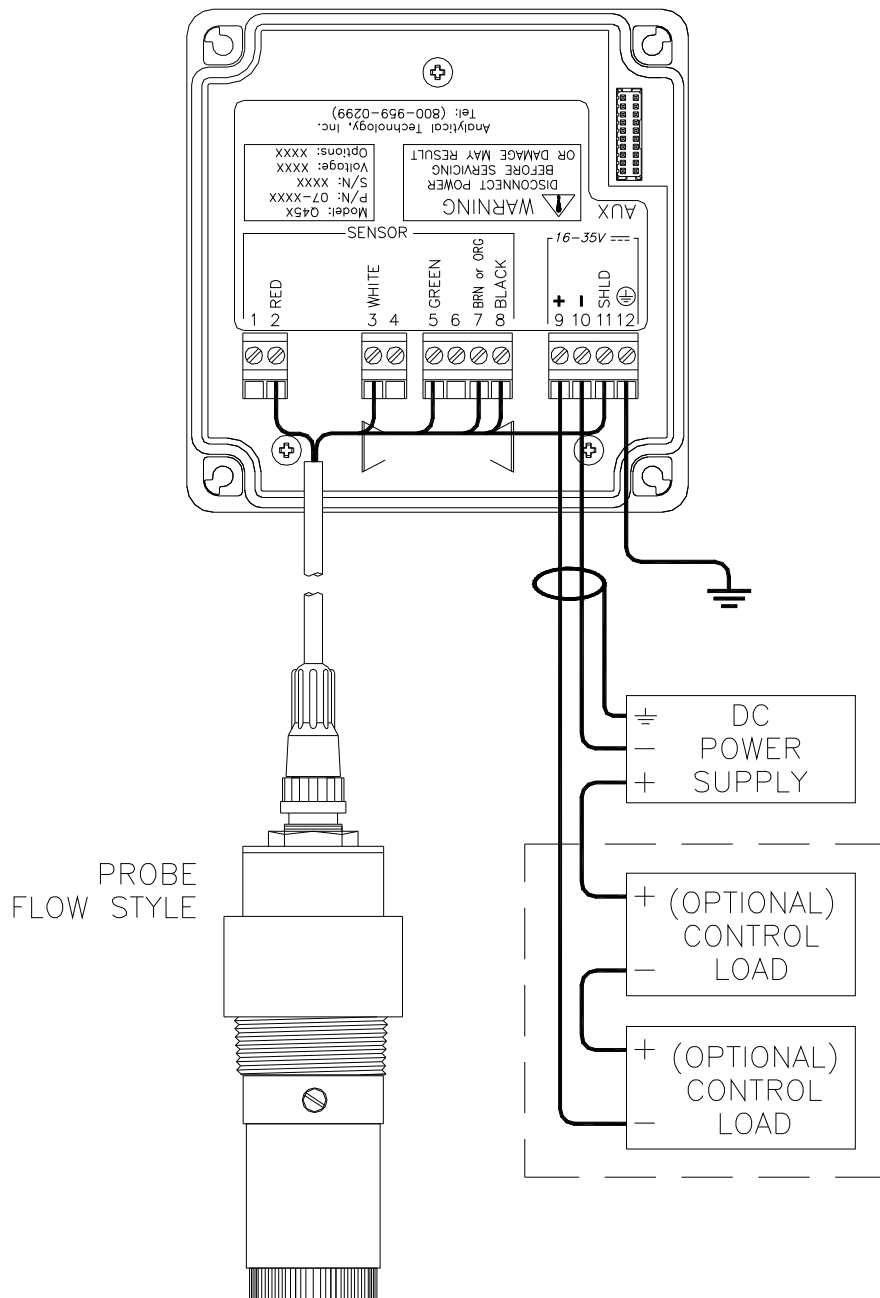

Figure 8 - Loop Power Connection
1. Use wiring practices that conform to all national, state and local electrical codes. For proper safety as well as stable measuring performance, it is important that the earth ground connection be made to a solid ground point from terminal 12 (Figure 8).
In the two-wire configuration, a separate DC power supply must be used to power the instrument. The exact connection of this power supply is dependent on the control system into which the instrument will connect. See Figure 8 for further details. Any twisted pair shielded cable can be used for connection of the instrument to the power supply. Route signal cable away from AC power lines, adjustable frequency drives, motors, or other noisy electrical signal lines. Do not run sensor or signal cables in conduit that contains AC power lines or motor leads.
Sensor connections are made in accordance with Figure 8. The sensor cable can be routed into the enclosure through one of cord-grips supplied with the unit. Routing sensor wiring through conduit is only recommended if a junction box is to be used. Some loose cable is needed near the installation point so that the sensor can be inserted and removed easily from the flowcell.